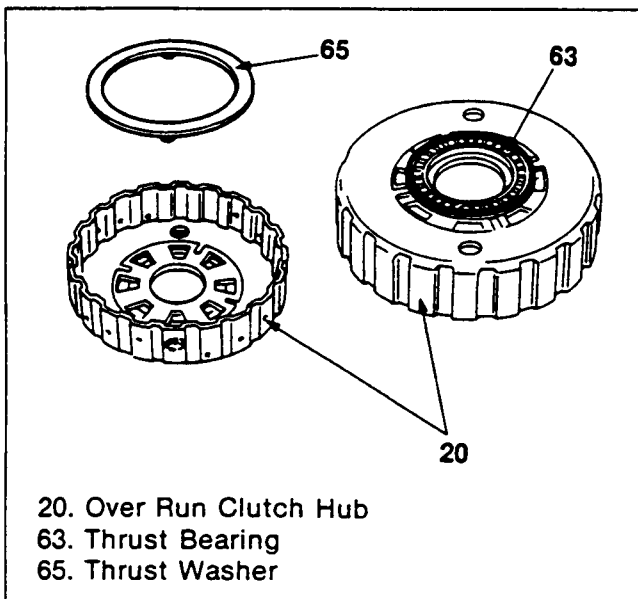

Figure 34. Thrust Washer Removal
4. Remove the thrust bearing and thrust washer from the overrun clutch hub (figures 34 and 35).
Inspect (Figure 34)